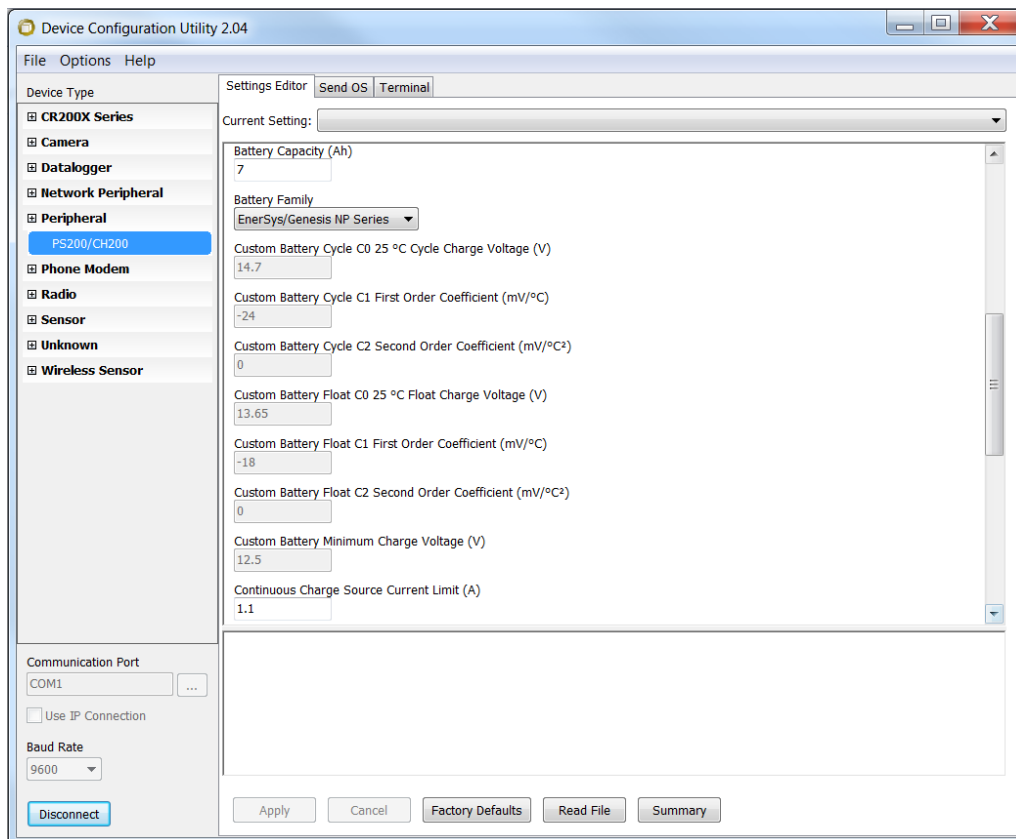

FIGURE 6-3. Device Configuration Utility settings editor
Custom Battery Cycle C 0 25°C Cycle Charge Voltage (V)	This field will allow changes made to it when “Custom Battery” is selected for the battery family. This field will be grayed out for any other battery family types and not allow changes made to it. See battery manufacturer information for correct values. See FIGURE 6-3.
Custom Battery Cycle C 2 First Order Coefficient (mV/°C)	This field will allow changes made to it when “Custom Battery” is selected for the battery family. This field will be grayed out for any other battery family types and not allow changes made to it. See battery manufacturer information for correct values. See FIGURE 6-3.
Custom Battery Cycle C 2 Second Order Coefficient (mV/°C) 2	This field will allow changes made to it when “Custom Battery” is selected for the battery family. This field will be grayed out for any other battery family types and not allow changes made to it. See battery manufacturer information for correct values. See FIGURE 6-3.
Custom Battery Float C 0 25° Cycle Charge Voltage (V)	This field will allow changes made to it when “Custom Battery” is selected for the battery family. This field will be grayed out for any other battery family types and not allow changes made to it. See battery manufacturer information for correct values. See FIGURE 6-3.
Custom Battery Float C 2 First Order Coefficient (mV/°C)	This field will allow changes made to it when “Custom Battery” is selected for the battery family. This field will be grayed out for any other battery family types and not allow changes made to it. See battery manufacturer information for correct values. See FIGURE 6-3.
Custom Battery Float C 2 Second Order Coefficient (mV/°C) 2	This field will allow changes made to it when “Custom Battery” is selected for the battery family. This field will be grayed out for any other battery family types and not allow changes made to it. See battery manufacturer information for correct values. See FIGURE 6-3.